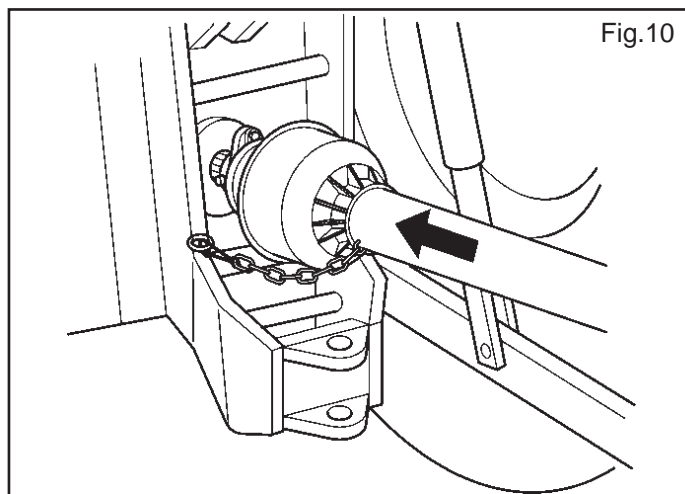

Fig.10
- 6) Connect the cardan shaft and make sure that it is perfectly blocked on the power take-off (Fig.10). Check that the guard turns freely and fix it with the chain provided.